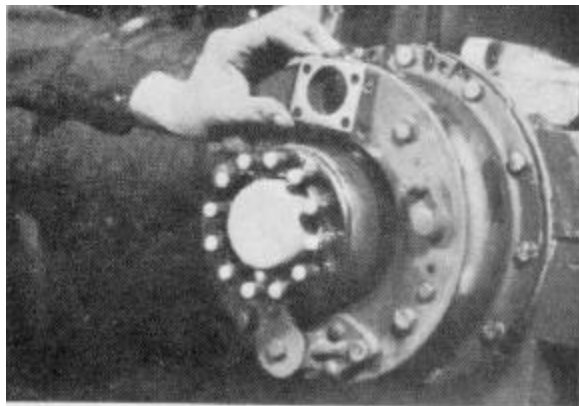

Figure 5-19
3. Withdraw the wheel cylinder from the backing plate and remove the cylinder spacer plate as shown in Fig. 5-19.